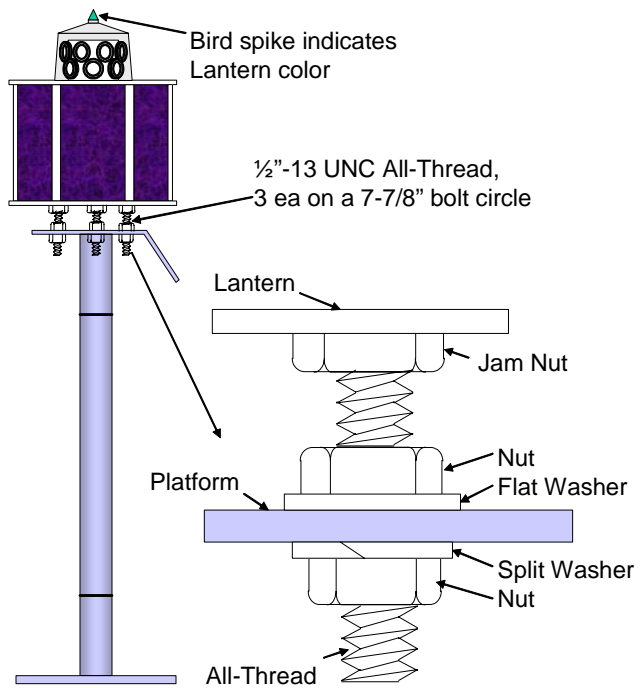

Figure 3-11
- d. On structures, Insert three 6" lengths of stainless steel  $\frac{1}{2}$ "-13 UNC All-Thread in the base of the lantern as far as they will go (about 2"). Thread three  $\frac{1}{2}$ " stainless steel nuts and tighten against the base of the lantern. These act as jam nuts and prevent the All-Thread from loosening in the lantern. Thread three stainless steel  $\frac{1}{2}$ " nuts about half-way up the All-Thread. Place three stainless steel flat washers on the platform, then install the lantern on the platform. See Figure 3-11.